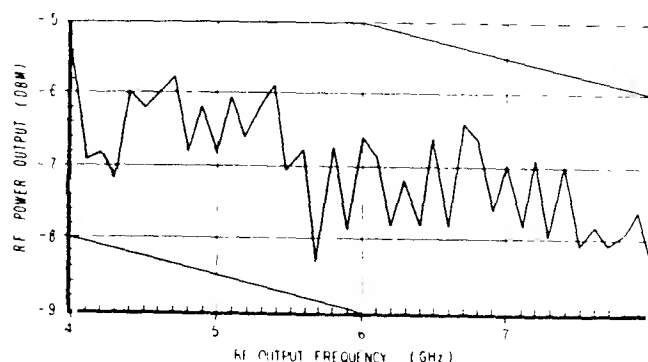

Figure 5-18. Typical Response Curve (618C)
g. Plot a dBm-frequency curve from readings obtained in step f (see Figure 5-18). Resulting response curve will consist of a series of peaks and troughs having an amplitude of ± 2.0 dB or less. Draw a straight line (parallel to frequency axis) through response curve in such a way that variations are averaged about the line.